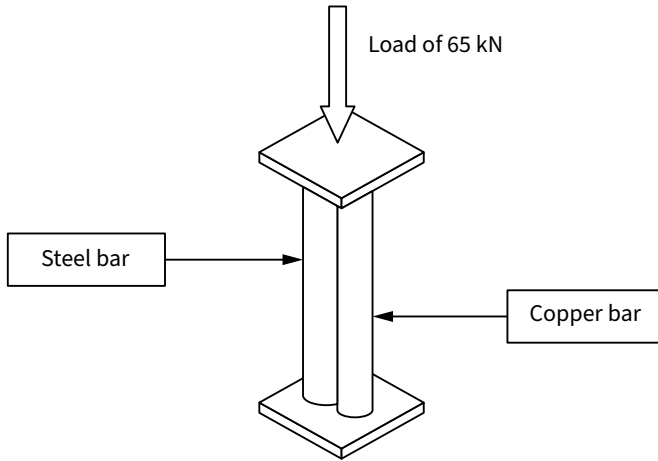

Figure 3
- 3.1 The compound bar shown in Figure 3 is used in a machine frame and consists of a parallel steel bar and copper bar. The compound bar undergoes a compressive load of 65 kN and is 127 mm long. (The steel bar and copper bar are equal in length).